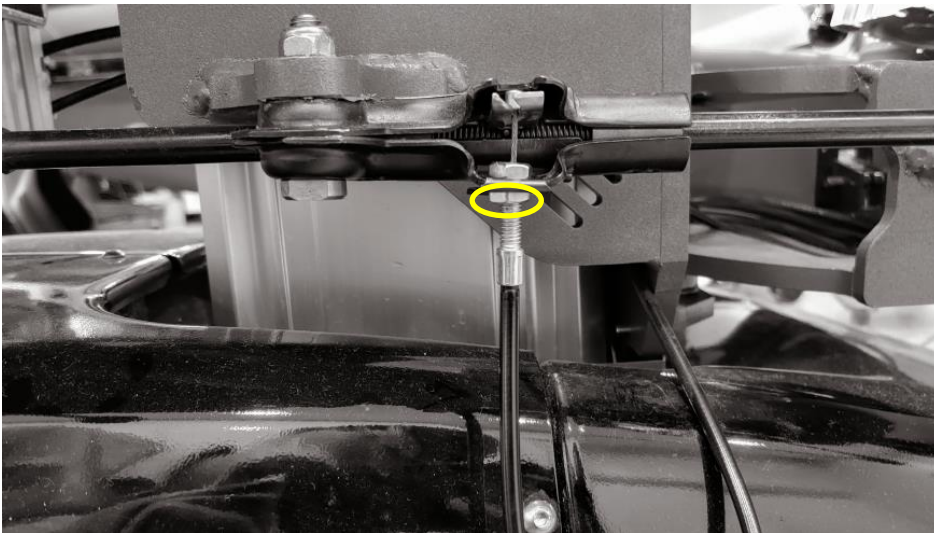

Figure 2.6
1. Remove the 10 mm bolt (see Figure 2.6).